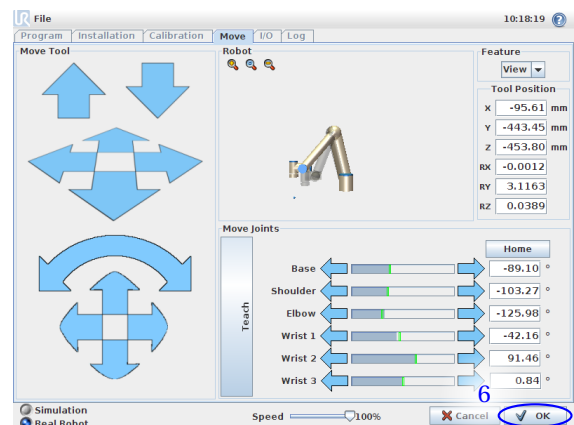

Figure 2.7: Move the robot to the position and press "OK".
- (6) Move the robot to the new position and press "OK", see figure 2.7.